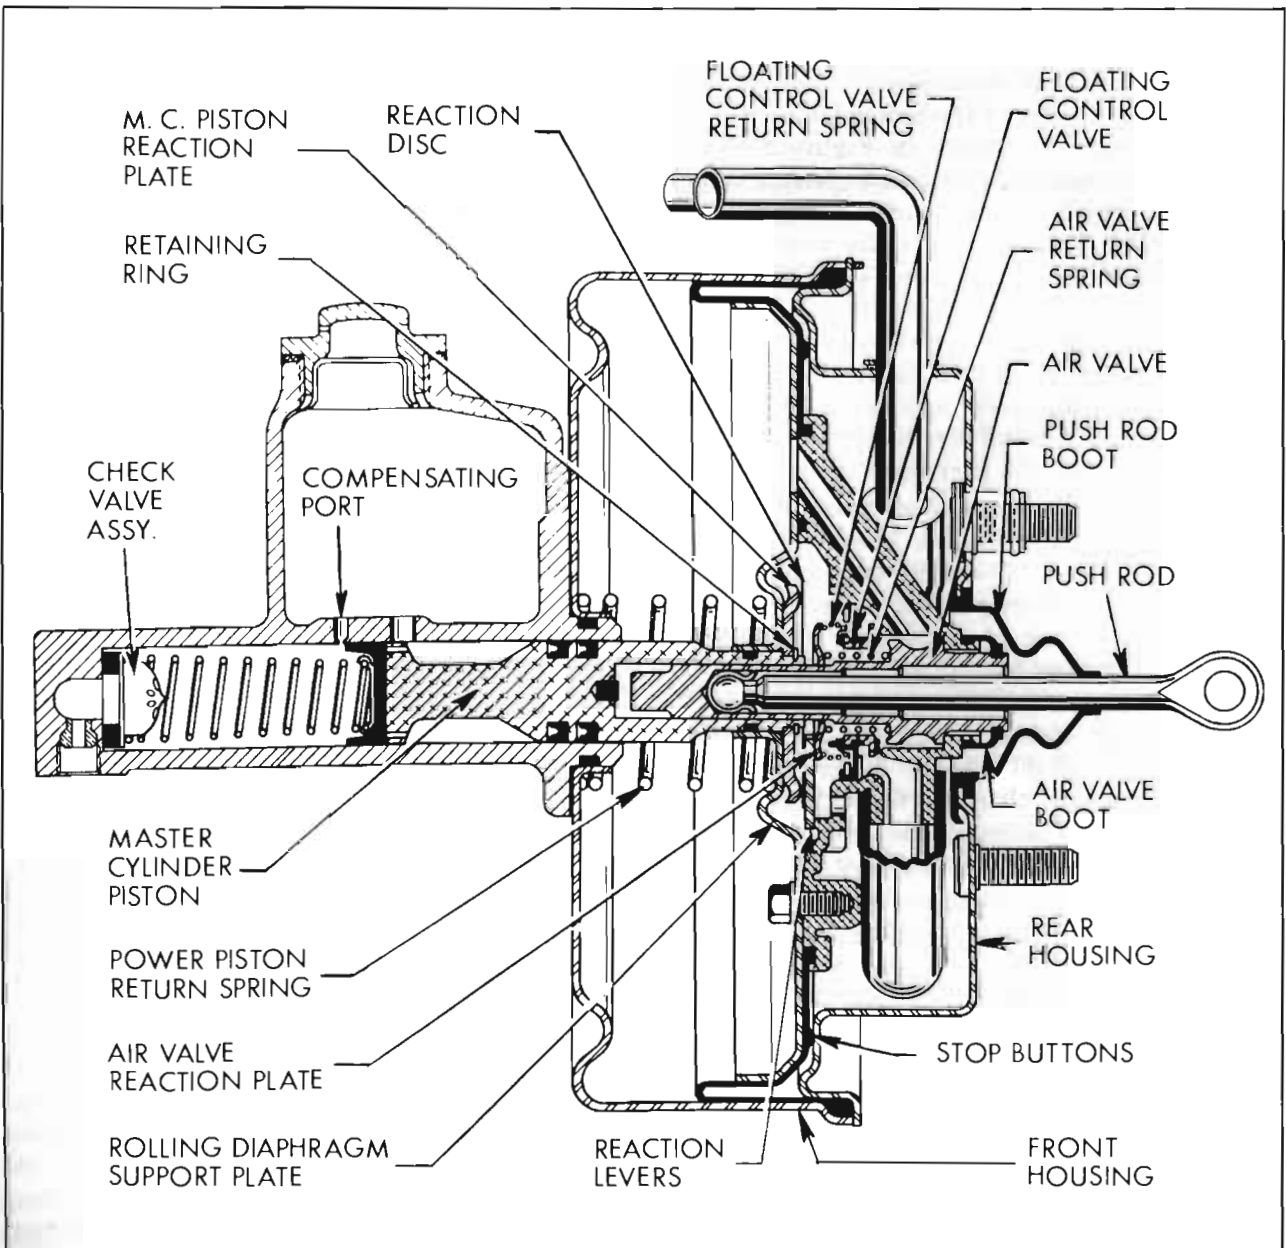

Figure 9-13—Power Brake Unit—Released Position
The power cylinder is the "air-suspended" type, meaning that atmospheric pressure is present on both sides of the power piston in the unapplied stage. As shown in Figure 9-13, a front and rear housing interlock to form a large chamber in which the power piston and related parts operate. The section to the rear of the piston is called the *Air* chamber since it is open to atmospheric pressure at all times. The section to the front of the piston is called the *vacuum* chamber since it is subjected to manifold vacuum during power application of brakes. All air entering the cylinder passes through an air filter located in the passenger compartment.
(1) *Released Position*, See Figure 9-13. The air valve return spring holds the air valve, push rod, and brake pedal rearward so that the air valve is clear of the floating control valve. Although vacuum is present at the floating control valve through the flexible hose, the control valve return spring holds the rubber face of the valve against its annular seat in the power piston, thereby closing off manifold vacuum.
(5) *Releasing.* When foot pressure on the brake pedal is released, the air valve return spring forces the air valve away from the floating control valve. This allows the floating control valve return spring to seat the control valve against the power piston, closing the vacuum passage. Since both sides of the power piston are now open to atmospheric pressure, the piston return spring forces the power piston and related parts rearward to the unapplied position (Figure 9-13).
NOTE: Refer to Figures 9-13 thru 9-16 for identification of parts not shown in figures next to overhaul steps.